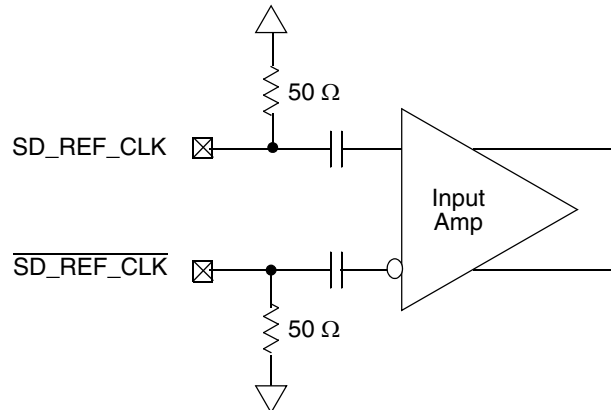

Figure 51. Receiver of SerDes Reference Clocks
Figure 51 shows a receiver reference diagram of the SerDes reference clocks.
- The SD_REF_CLK and SD_REF_CLK are internally AC-coupled differential inputs as shown in Figure 51. Each differential clock input (SD_REF_CLK or SD_REF_CLK) has on-chip 50- Ω termination to $SGND_SRDSn$ ($xcorevss$) followed by on-chip AC-coupling.